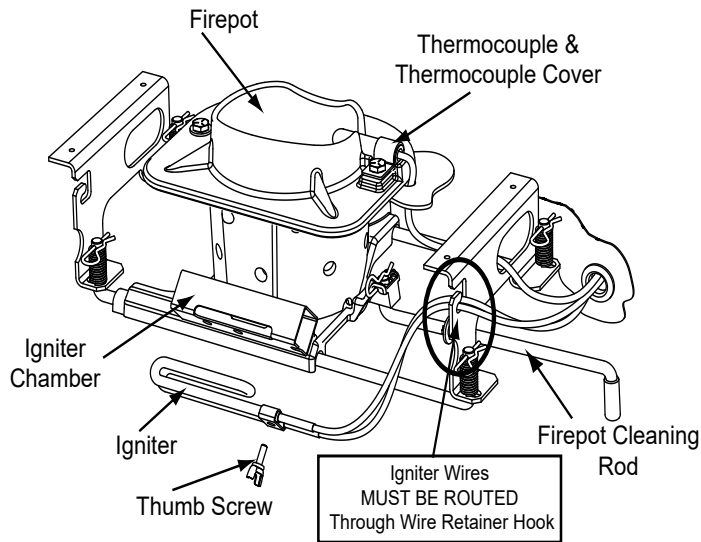

Figure 26.1
5. Install new igniter into the chamber and tighten thumb screw. The wires MUST route through the wire retainer hook and then re-connect the wires to the 2 leads with the spade connectors (**Figure 26.1**).